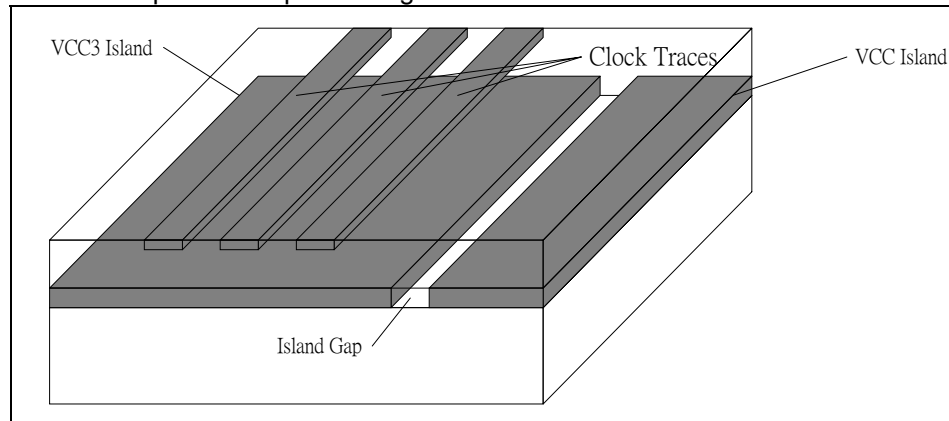
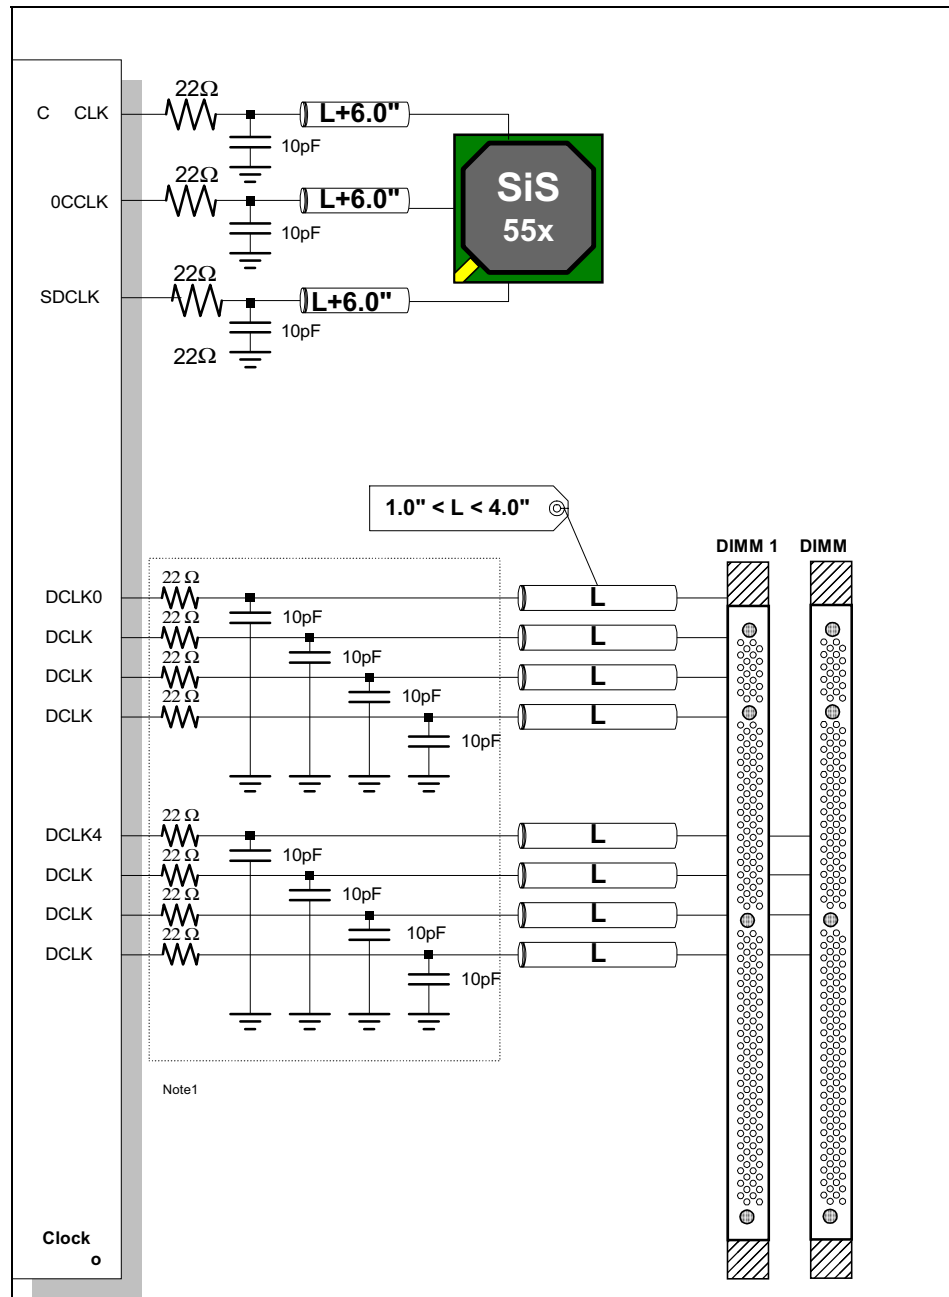

Figure 21. The Discontinuity of Reference Plane nearby the Clock Traces.
Figure 22. Host Bus Clocks Layout Guidelines (Socket 7 System)
- Keep clock traces away from the discontinuity of its reference plane to reduce EMI noise, as illustrated in Figure 21.
In Figure 21, we demonstrate the clock scheme for SiS55x. In this clock scheme, the frequency of SDRAM clocks is the same as that of CPU clock. Although SiS55x supports with asynchronous mode between CPU and SDRAM, but yet SiS suggests that the clock layout for asynchronous mode is the same as Figure 22.